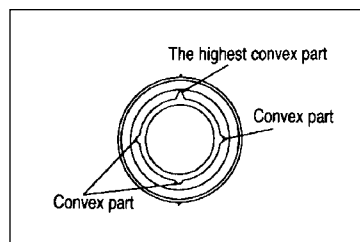

Fig. 1 Indicator Bottom View
- 5) Align the highest convex part of four convex parts of the indicator with the deepest concave part of the gearbox as shown in Fig. 1 & 2. (If not properly aligned the indicator cap can be damaged.)